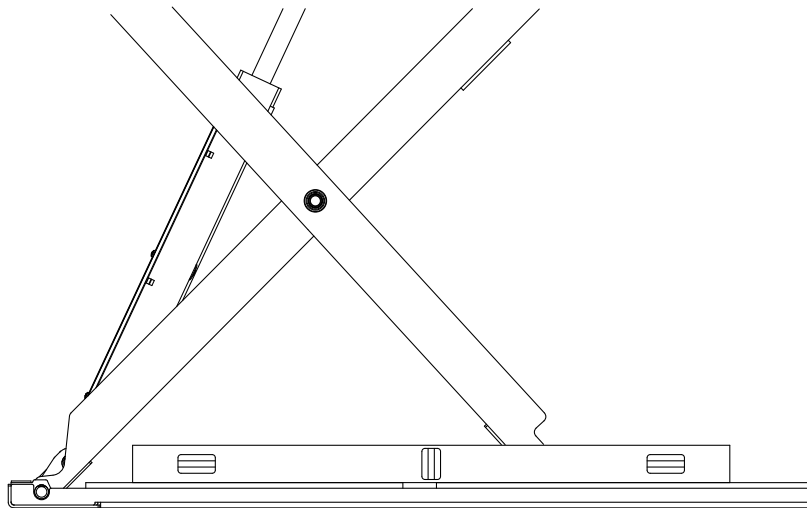

Fig. 6
3. Verify platform base is level front to rear, Fig. 6.